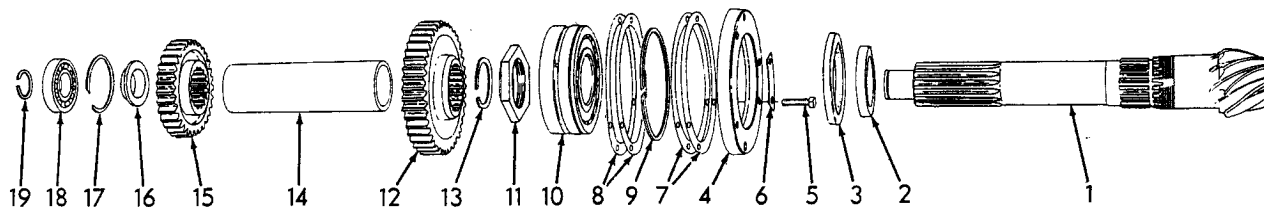

Fig. 41 -- Bevel Pinion Shaft Parts
- c. Install oil seal, Fig. 41 (3) in bevel pinion shaft rear bearing retainer with spring side out. Install bearing retainer (with shim pack previously determined); lock attaching capscrews with lock plates.
- d. Install bevel pinion shaft rear gear, Fig. 41 (12) with long hub toward front, and sleeve (14).